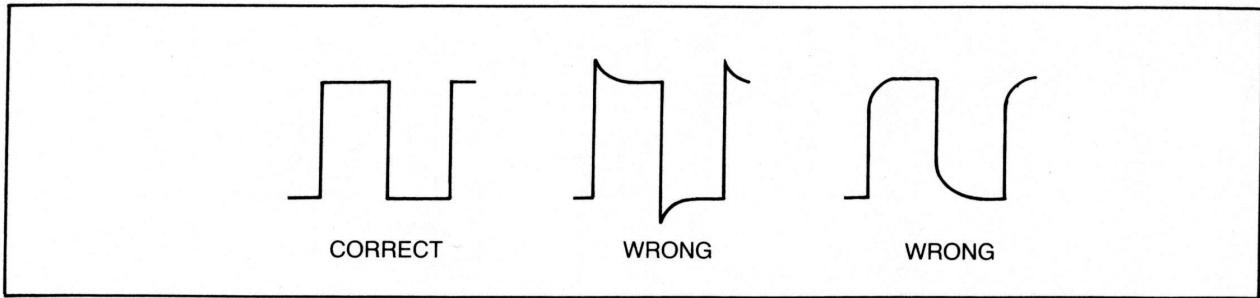

Figure 3-3.
Connect a square-wave generator to the CH-1 and CH-2 input connectors. Adjust the generator frequency to 1000 Hz, and its output level to 25 mVp-p. Adjust VR-1 on PCB T-3154 for a correct square-wave display, per Figure 3-3. After channel 1 is compensated, adjust VR-11 on PCB T-3154 for a correct channel 2 display.
Adjust VR-2 on PCB T-3154 for a correct square-wave display, per Figure 3-3. After channel 1 is compensated, adjust VR-12 on PCB T-3154 for a correct CH-2 display.
Adjust CH-1 1/2Cc on PCB T-3154 for a correctly compensated square-wave. (See Figure 3-3.) Reset the CH-1 VOLTS/DIV switch to 50 mV, and the generator output level for 250 mVp-p. Adjust CH-1 1/5Cc on PCB T-3154 for a correctly compensated square wave. Reset the CH-1 VOLTS/ DIV switch to .1 V, and the generator output level to .5 V. Adjust CH-1 1/10Cc on PCB T-3154 for a correctly compensated square-wave. Reset the CH-1 VOLTS/DIV switch to 1 V, and the generator output level to 5 Vp-p. Adjust CH-1 1/100Cc for a correctly compensated square-wave.
Adjust VC-3 (CC) on PCB T-3153 for a correctly compensated square- wave, per Figure 3-3.